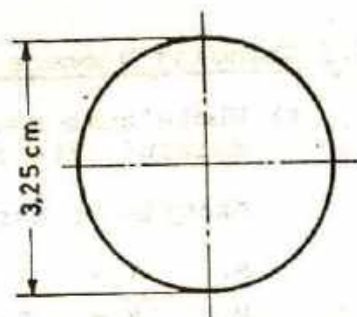

Fig. 2
- d) The circumference of a circle is found by multiplying its diameter by 3.14. Find the circumference of the circle in Fig. 2. State answers to two decimal places.
- e) If the circumference of the circle in Fig. 2 is 7.94 cm, find the diameter. State answer to two decimal places.